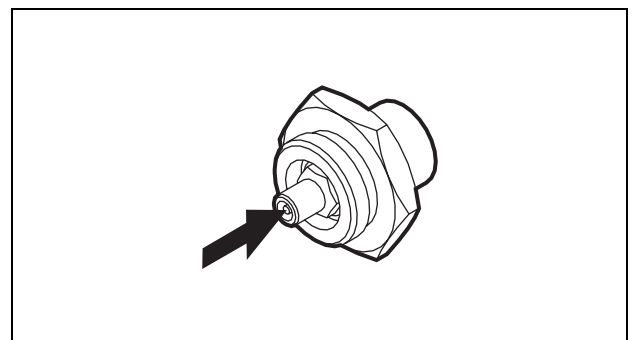

Fig. 36 Push the pin
3. Push the small pin in the center of the air nipple to evacuate the air pressure. *See Fig. 36.*